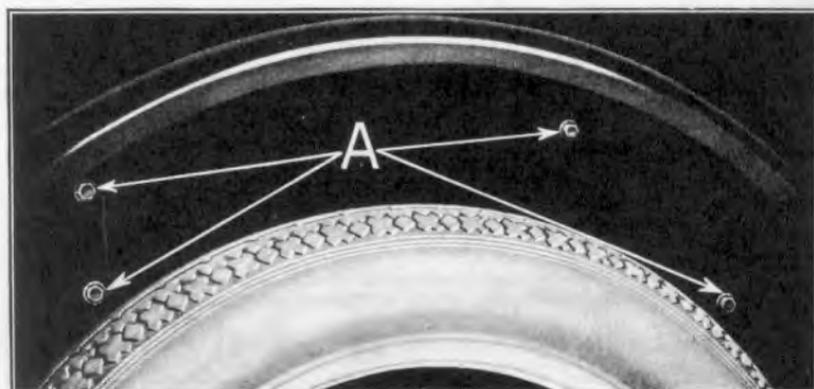

Fig. 541
Run off nuts and withdraw the two fender to dust shield bolts "B". Run out the four fender to body bolts (see "A" Fig. 541). (The nuts
- 1162 To install the new type fender, place lockwashers over the ends of the four fender to body bolts. Position fender against body and line up the bolt holes. Insert the four fender to body bolts (see "A" Fig. 541) through fender and run them down into the fender bolt nuts which are held stationary in body. Do not tighten until all bolts have been entered.